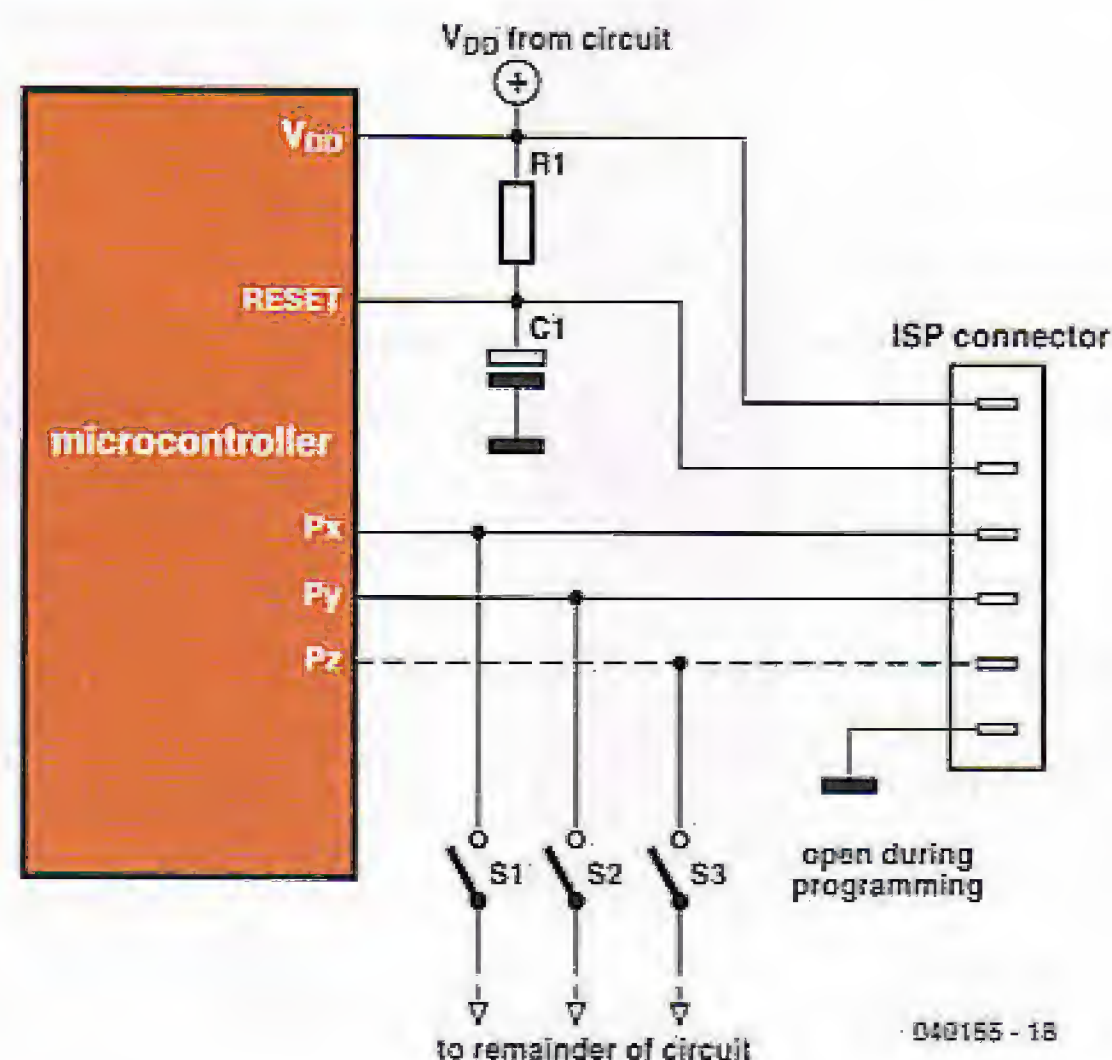

Figure 5. Operating principle of in-circuit programming (ISP or ICSP).
**Figure 5** illustrates the operating principle of this concept. The microcontroller obtains its power supply and clock signal from the PCB. Two or three port pins on the IC temporarily have an alternative function, which makes it possible to erase and program the program memory. If the application doesn't use these pins, then they may be connected directly to a PC. Otherwise a few jumpers or DIP switches may be required to isolate the circuit during programming. All modern microcontrollers with Flash memory support this programming method and on the Internet countless free software can be found for all the various controllers to program them in this way.